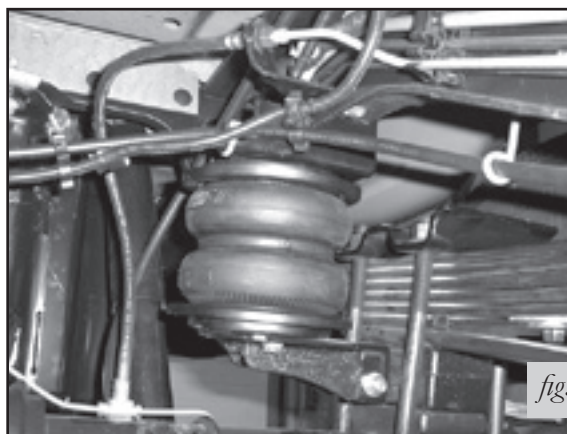

fig. 18
2. The finished driver-side install is shown in Figure 18.